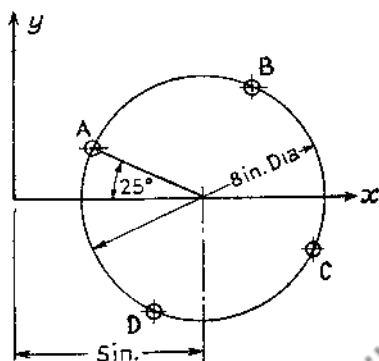

Fig. 51
(4) Four holes are equally spaced round a pitch circle as shown in fig. 51. Calculate the co-ordinates of the holes.